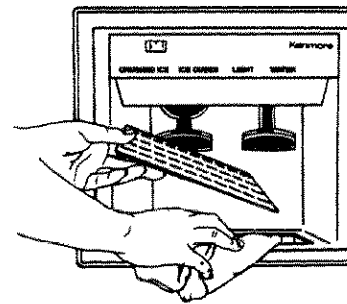

Figure 31
- c. Spill shelf is **not** self-draining, so excess water should be poured into sink or wiped dry immediately. See Figure 31.